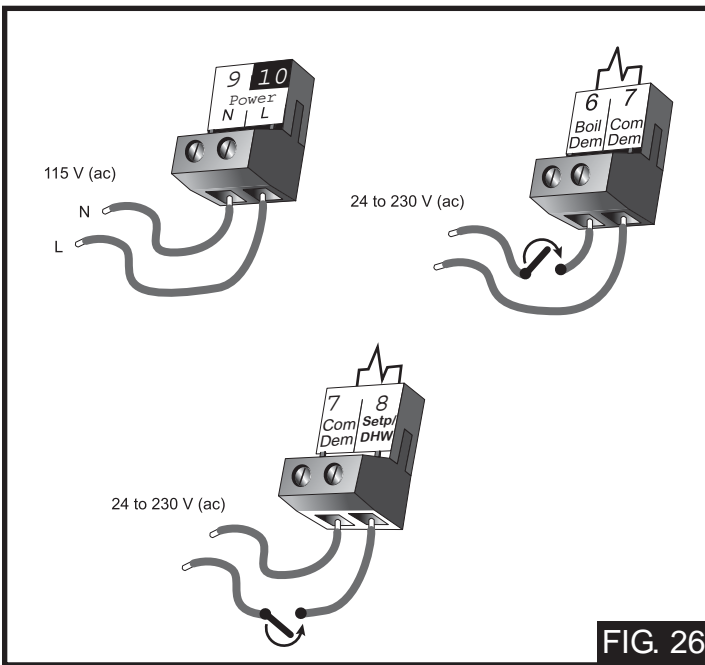

FIG. 26
Connect the 115 V (ac) power supply to the Power L and Power N terminals (10 and 9) (FIG. 26). This connection provides power to the microprocessor and display of the control. As well, this connection provides power to the Prim P1 terminal (11) from the Power L terminal (10).
To generate a boiler demand, a voltage between 24 V (ac) and 230 V (ac) must be applied across the Boil Dem and Com Dem terminals (6 and 7) (FIG. 26).
To generate a DHW Demand, a voltage between 24 V (ac) and 230 V (ac) must be applied across the Setp / DHW and Com Dem terminals (8 and 7) (FIG. 26). If using DHW, the last boiler in MODE 1, 4 or 5 must be set to OFF and DHW MODE must also be set to 1 through 4.
To generate a setpoint demand, a voltage between 24 V (ac) and 230 V (ac) must be applied across the Setp / DHW and Com Dem terminals (8 and 7) (FIG. 26). The DHW MODE must be set to OFF.